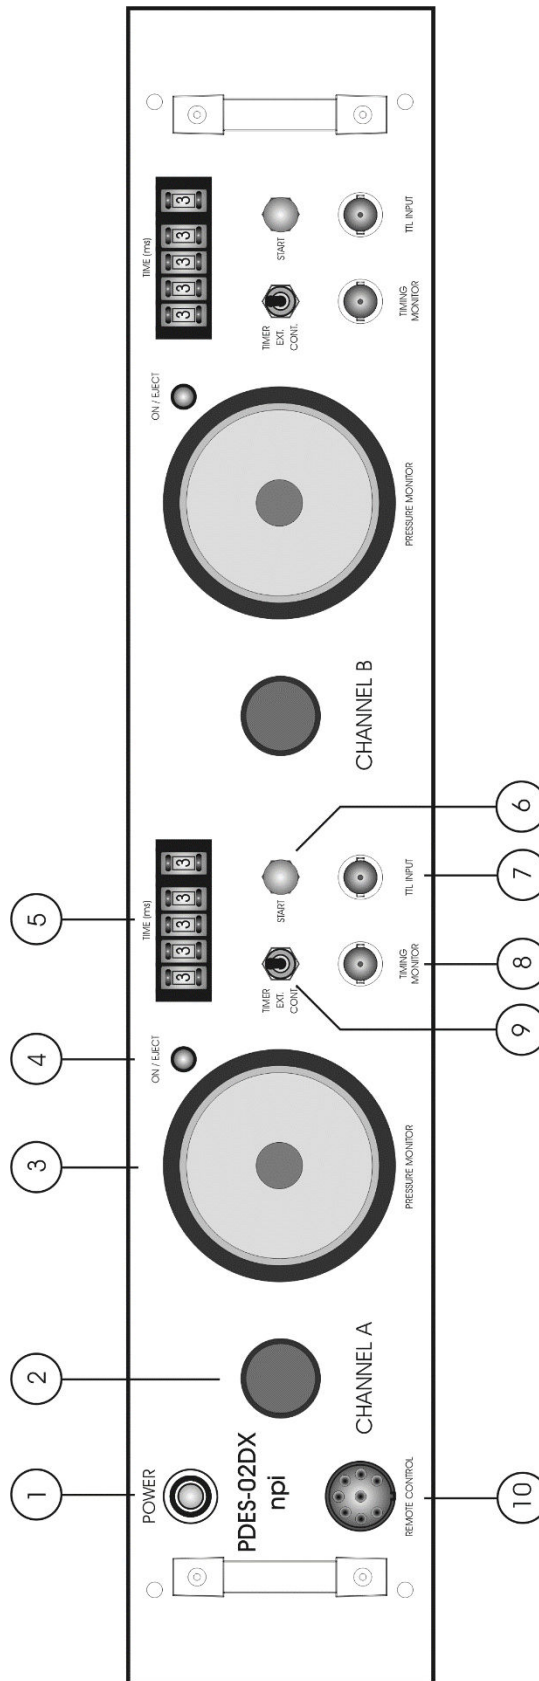

Figure 1: PDES-02DX front panel view (the numbers are related to those in the text below)
In the following description of the front panel elements, each element has a number that is related to that in Figure 1. The number is followed by the name (in uppercase letters) written on the front panel and the type of the element (in lowercase letters). Then, a short description of the element is given. Since both channels are identical, only one channel is described.
- o Select the operation mode using the respective toggle switch at the front panel (see Figure 1).
- o Use the START button to test the system. The START button can be used to start ejection in TIMER or EXT. mode. In TIMER mode pushing the START button starts ejection for the time set by the timer control (#5, Figure 1). In EXT. mode ejection lasts as long as the START button is pushed.